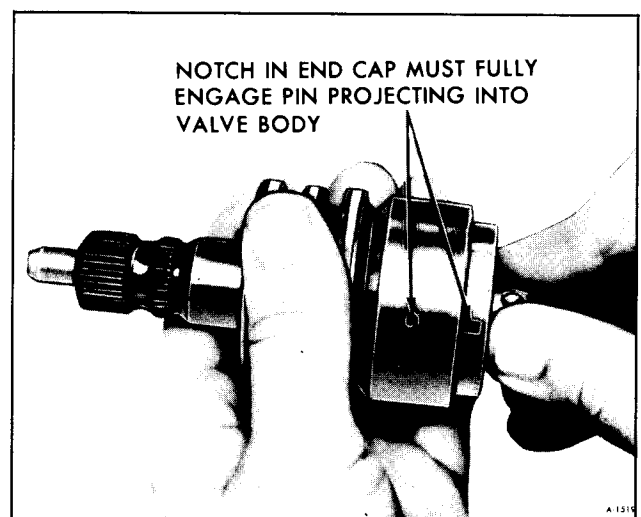

Figure 39—Installing Stub Shaft Assembly
5. If the small notch in the skirt of the valve body is excessively worn, the complete valve assembly will have to be replaced. See Figure 39.
6. Align the notch in the shaft cap with the pin in the valve body and press the spool valve and shaft assembly into the valve body (figure 39).